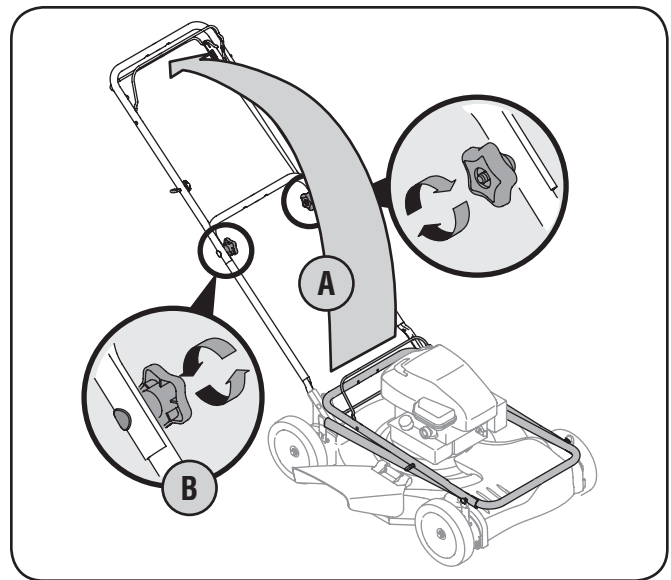

Figure 3-2
- Lift the upper handle up from folded position and pull it to extended position following the arrow in Fig. 3-2. The handle should click into this position.